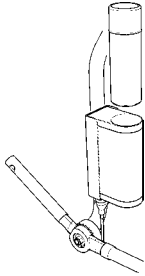

Fig. 11
1. Remove the battery from the cradle (see fig. 11). The battery is retained by a magnetic force. Simply pull the battery straight out of the control box on the cradle.